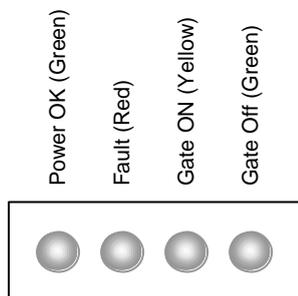

Fig. 13: Example of LEDs for visual feedback.
The optical status feedback output (SF) and the four LEDs (see Fig. 13) provide the user with information according to this table: